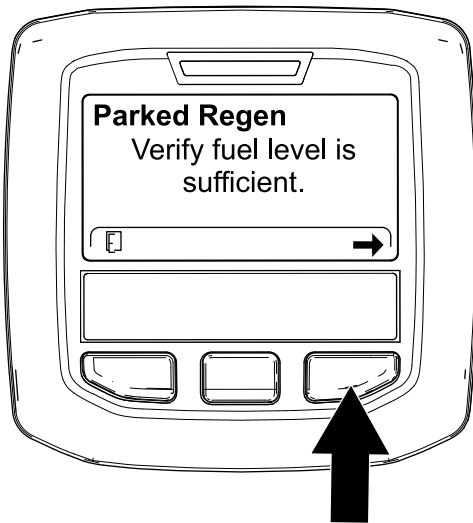

Figure 60
- At the VERIFY FUEL LEVEL screen, verify that you have 1/4 tank of fuel if you are performing the parked regeneration or 1/2 tank of fuel if you are performing the recovery regeneration, and press the right button to continue (Figure 60).